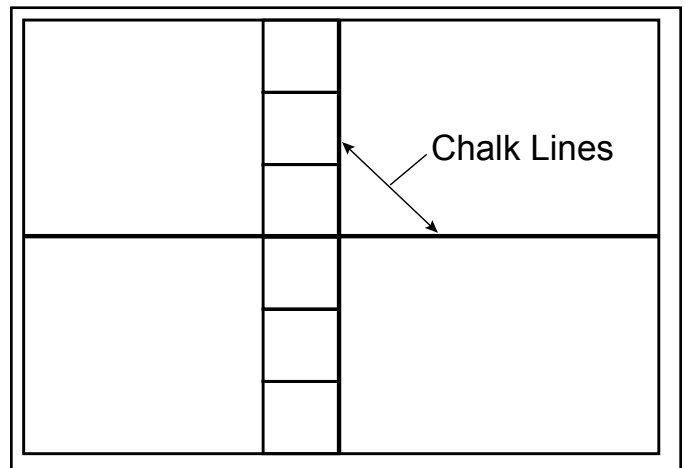
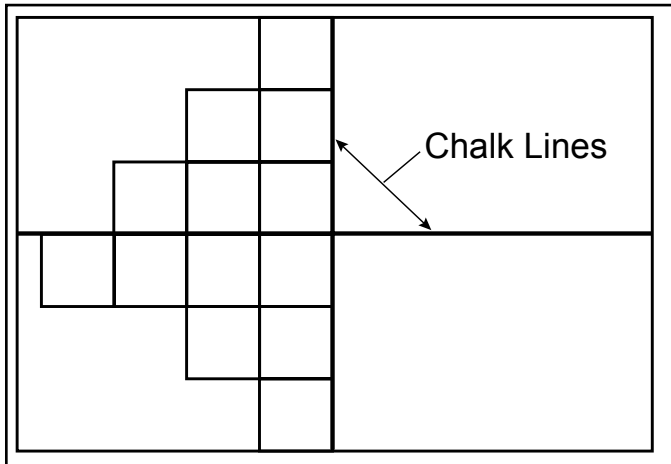

Figure 1. Locating and marking the center of the room.
Figure 2. Measuring the proper spread rate for 8453 Conductive Floor Tile Adhesive.
- To control the proper application of the adhesive, size each section to match the recommended spread rate; for example, the typical spread rate for 8453 Conductive Floor Tile Adhesive has an average spread rate of 200 square feet per gallon unit, so a section 10' x 20' would be appropriate. Commonly used layout patterns are straight line (Figure 1) or pyramid (Figure 2).